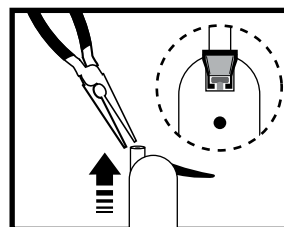

Figure 7
4. Making sure the faucet handle is in the down position, use a needle-nose pliers to pull the short plastic tube out of the top of the faucet base (Figure 7).